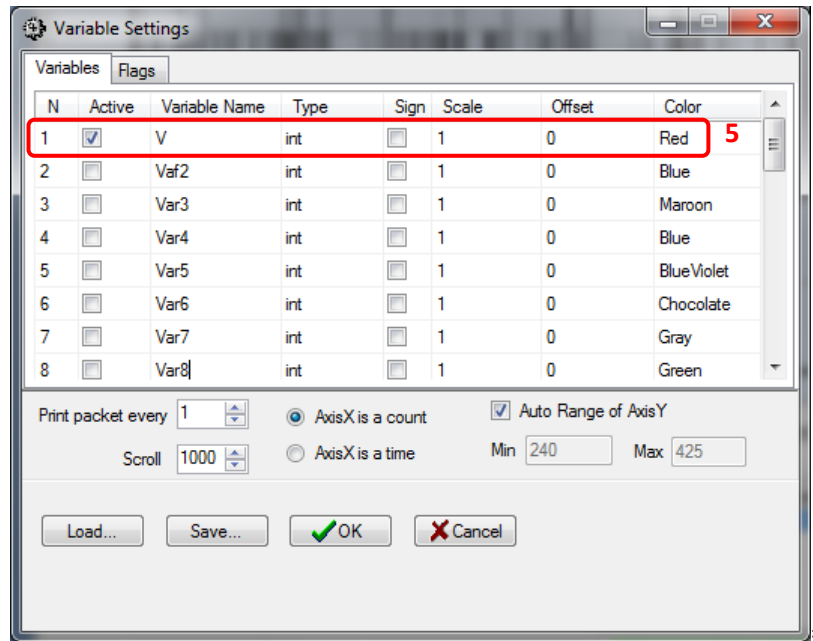

Figure 5: Bridge Control Panel Variable Setup
5. Go to "Chart -> Variable Settings" and rename one of the variables to "V" with the type "int", and check the "Active" box (Figure 5).